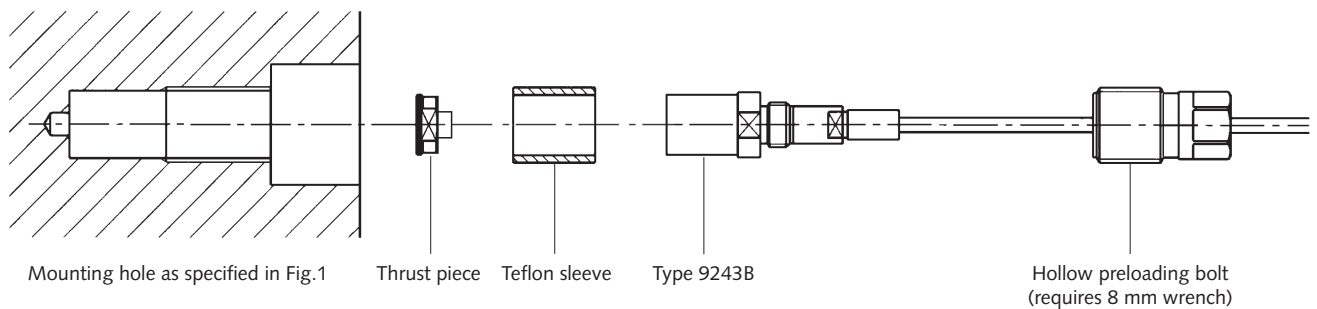

Fig. 5: Ground-isolated mounting of the longitudinal measuring pin (Type 9243B) with mounting kit (Type 9487A)
- Mount and carefully preload the sensor to the stipulated value of 40,000 pC ( $\approx 16$  kN) with the aid of the specially coated type 9487A hollow preloading bolt included in the Type 9487A mounting kit, using a suitable 8 mm tubular socket wrench such as the Type 1385B200 as shown in Figure 5.